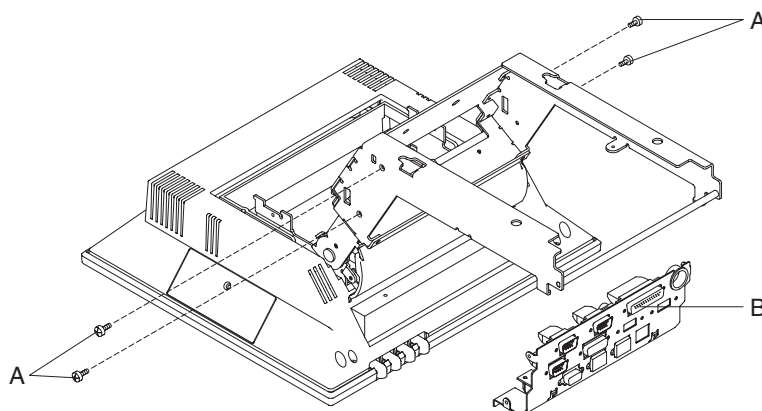

Figure 128. Detaching the tailgate from the mounting plate
8. Detach the tailgate assembly from the mounting plate by removing four screws, as shown in Figure 128.